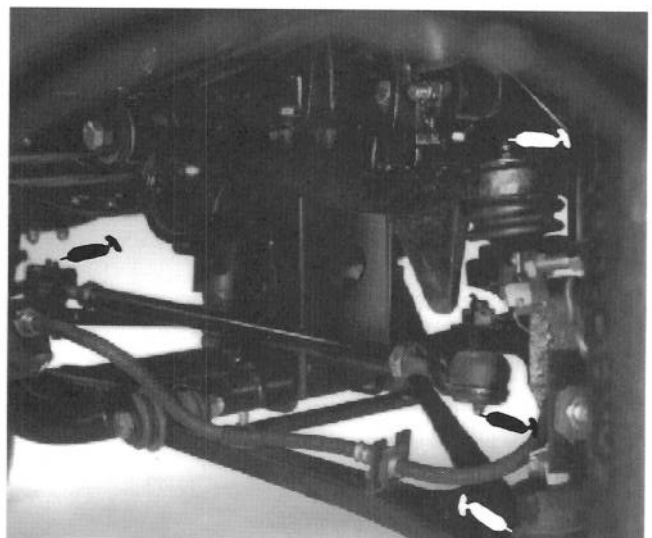
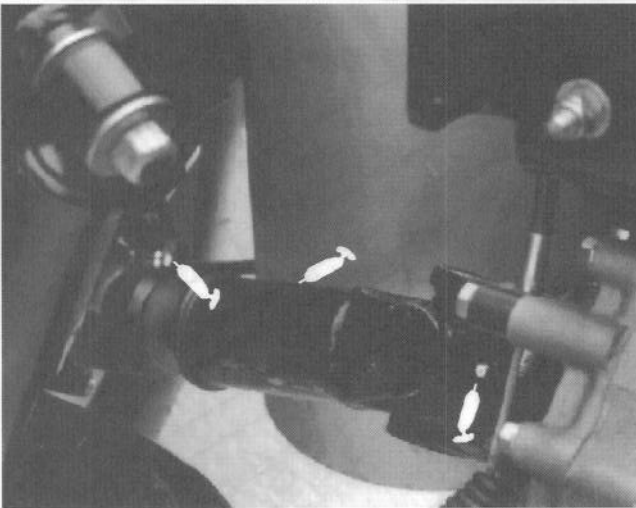

Figure 27
Figure 28
(Fig. 27–30)
The grease fitting locations and quantities are: Tie rod ends (4) (Fig. 27), Front ball joints (4) (Fig. 27), Rear drive shafts (18) (Fig. 28) Front pivot bushings (2) (Fig. 29) and Steering shaft (1) (Fig. 30).